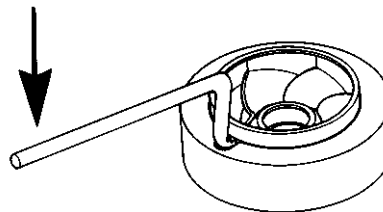

Fig. 11 Removing wear ring
1. Fit the holder on the impeller. The wear ring should come out in the center of the holder. See fig 11.
3. Push the wear ring up and free of the impeller using the puller. See fig. 11.